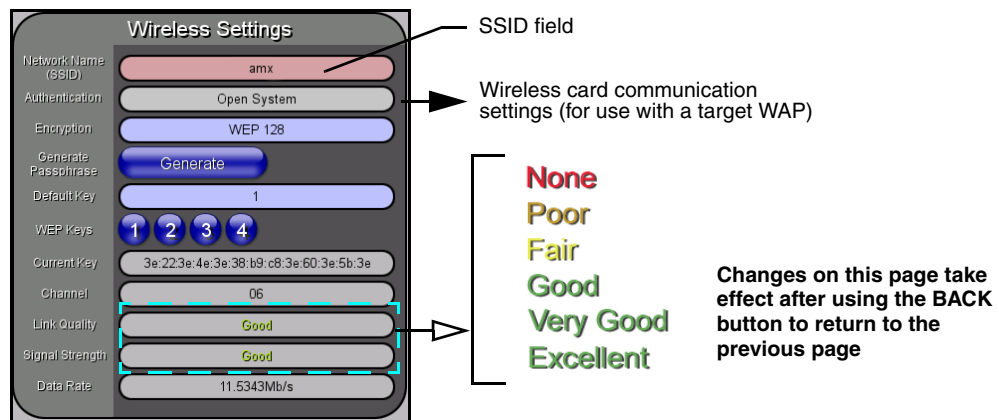

FIG. 58 Secondary Connection page (Wireless Settings section)
6. Locate the Wireless Settings section of the Secondary Connection page (FIG. 58).
9. Toggle the *Encryption* field (FIG. 58) until it reads **WEP64** or **WEP128**. *The 64/128 selection reflects the bit-level of encryption security. This WEP encryption level must match the encryption level being used on the WAP*
- Write down this Current Key string value for later entry into your WAP's *WEP Key* field (*typically entered without colons*) and into the communicating panel's *Current Key* field (FIG. 58).